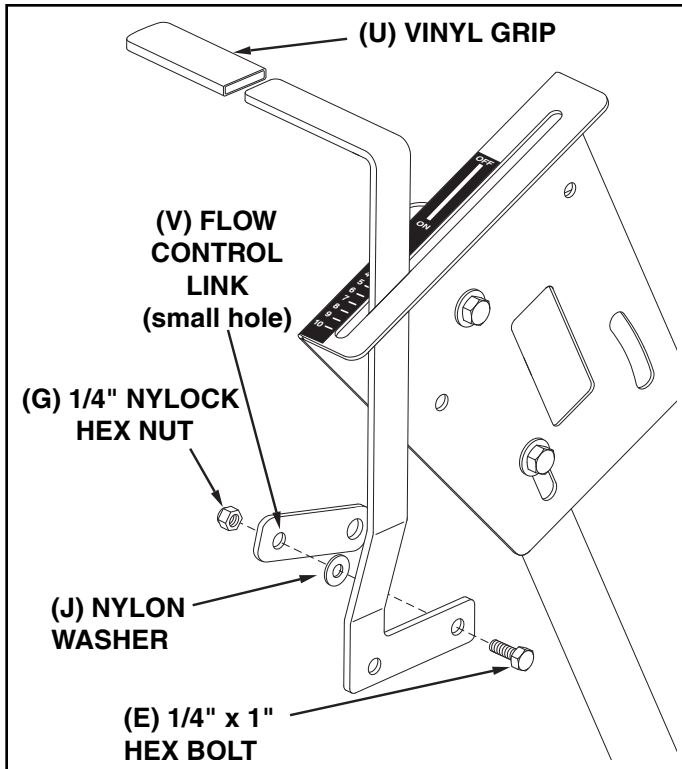

FIGURE 8
18. Assemble the vinyl grip (U) onto the flow control arm. See figure 8.
19. Insert the flow control arm down through the slot in the flow control bracket. Assemble the small hole of the flow control link (V) to the flow control arm using a 1/4" x 1" hex bolt (E), a nylon washer (J) and a 1/4" nylock hex nut (G) as shown in figure 8. **Tighten carefully.** The flow control link should be snug but should pivot with no more than slight resistance.